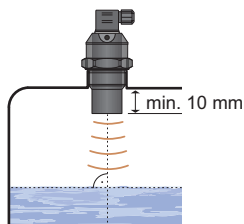

Fig. 1: Correct installation of the sensor, perpendicular to the liquid surface
- The device is installed in a vertical position into the upper lid of the tank or reservoir using a lug, a fastening nut or a flange in such a way that the axis of the device is perpendicular to the surface level of the measured liquid (Fig. 1). Tightening of the level meter in the welding flange (or. by the fixing nut) **must be done only by hand** \*. The device shall be installed in places with no risk of **mechanical damage to the front of the sensor**.